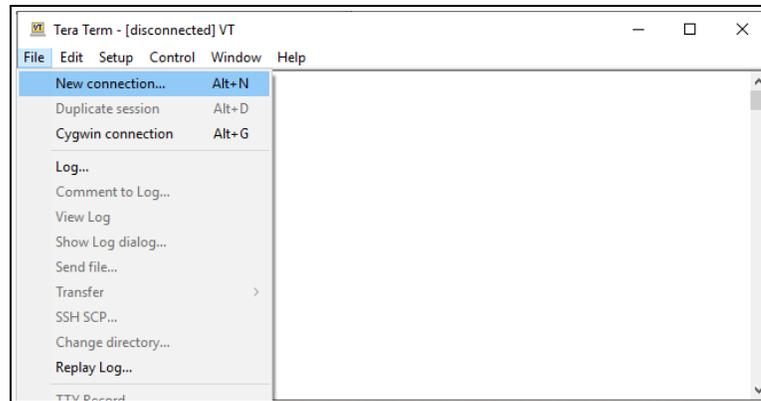

Figure 228: File menu > New Connection
2. In **Tera Term**, click the **File** menu and select **New Connection**. Figure 228